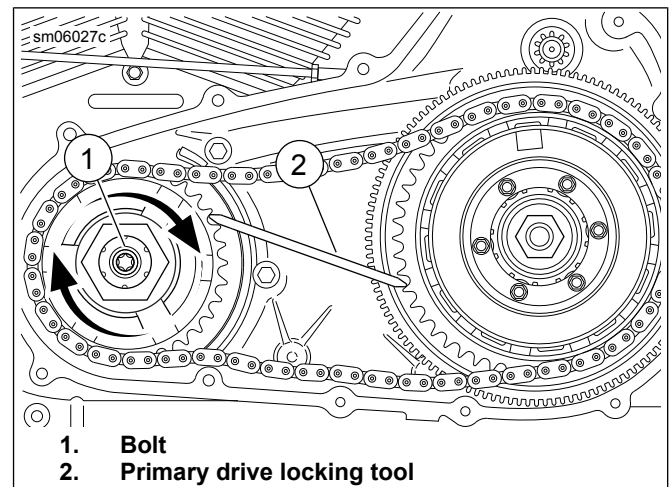

Figure 6. Installing Engine Compensating Sprocket Bolt
15. See Figure 6. Place the PRIMARY DRIVE LOCKING TOOL between the teeth of the engine and clutch sprockets as shown.